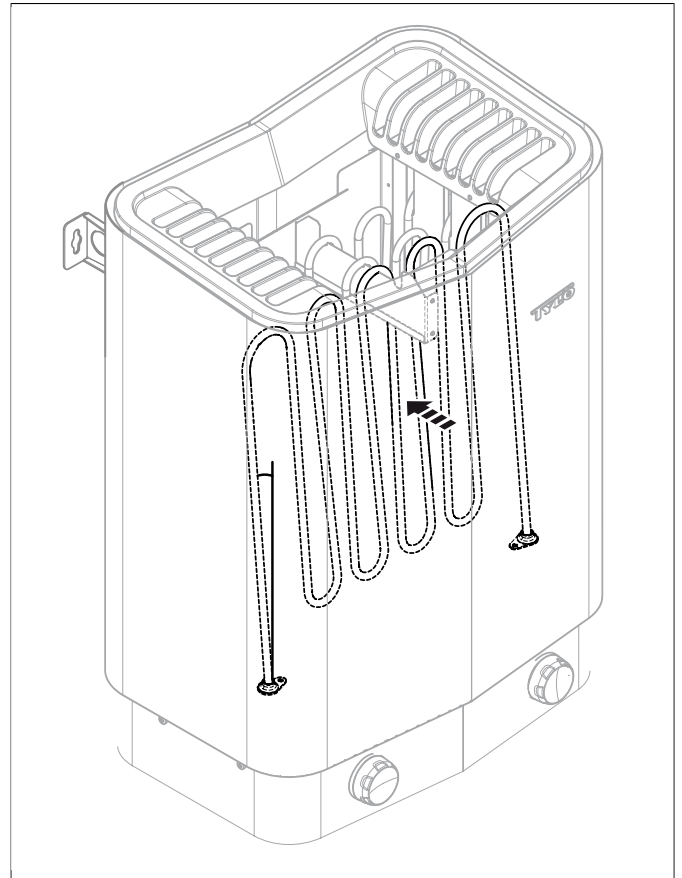

Figure 7: Angle the tubular elements
2. Tilt the tubular elements to help remove the stones see **Figure 7**, Page 4.